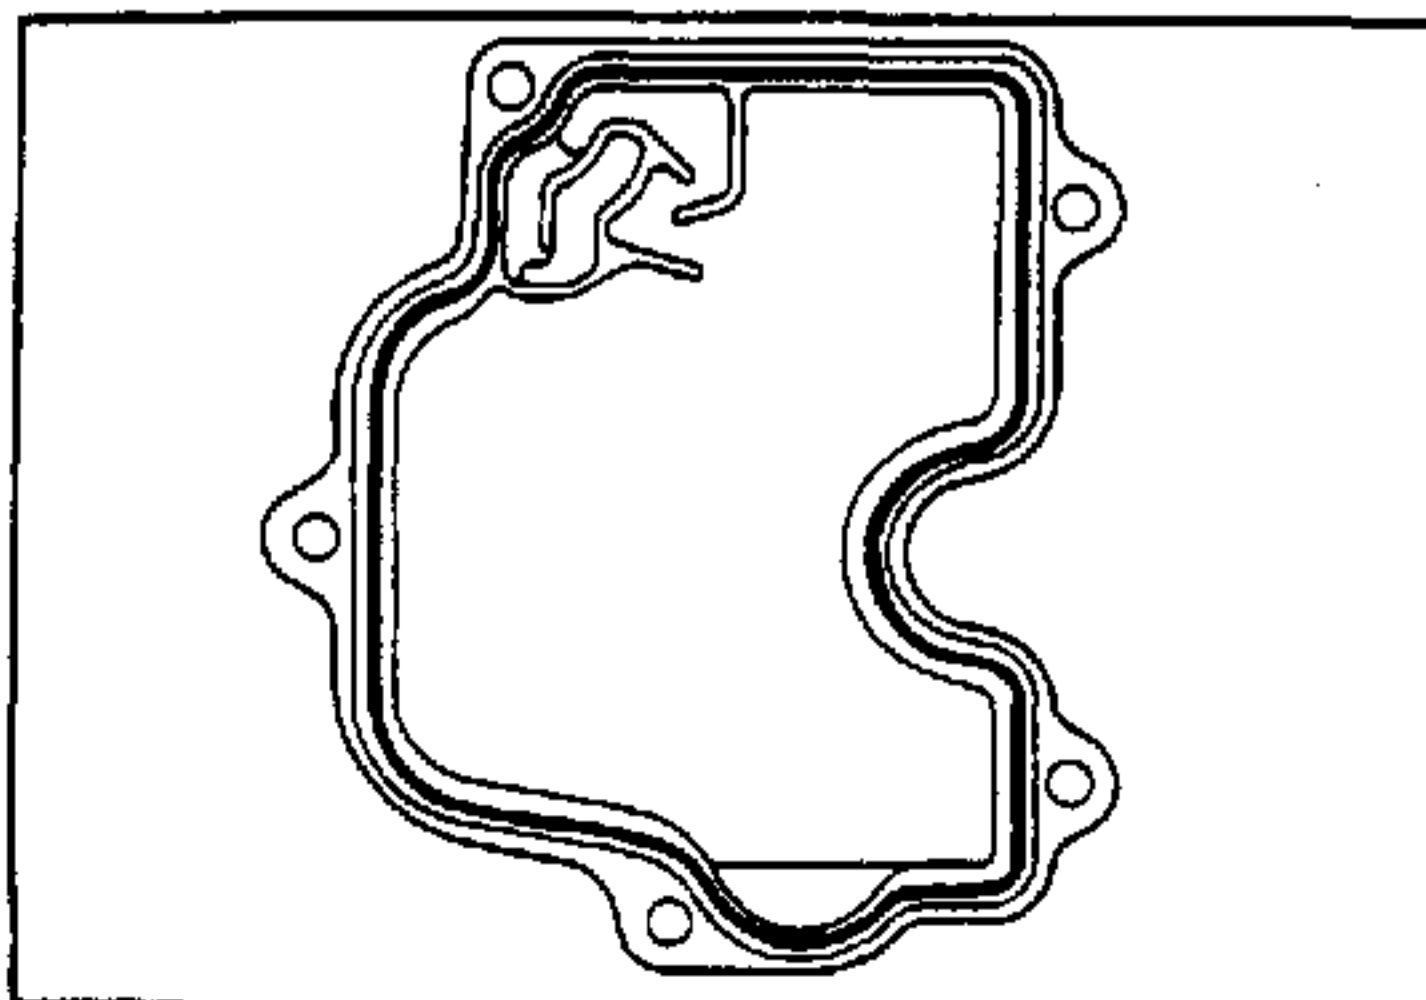

Figure 3. Valve Cover Sealant Pattern.
8. Apply a 1/16" bead of RTV-108 (or equivalent) silicone sealant to the valve cover as shown in Figure 3.